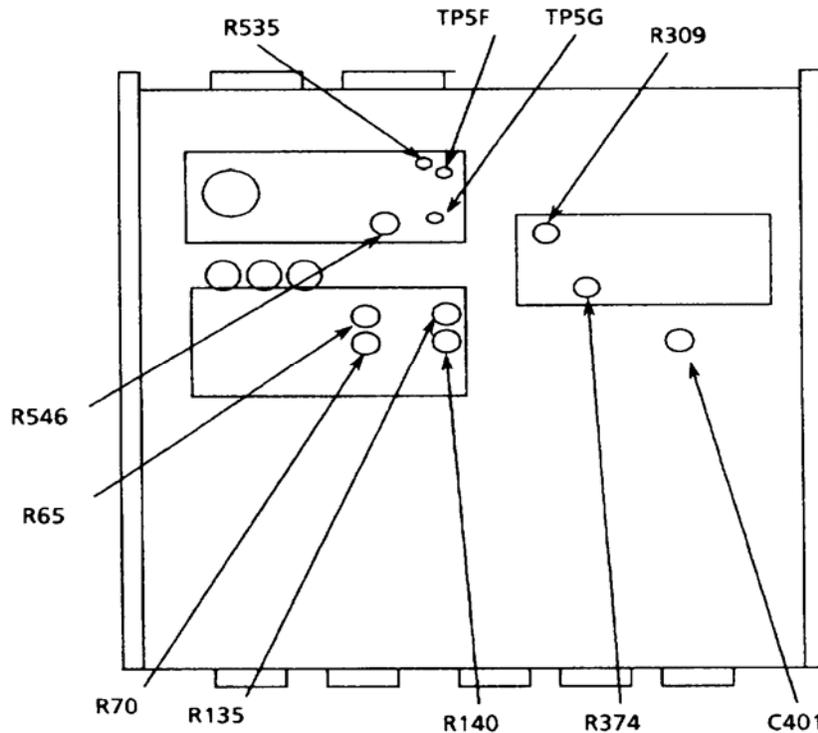

Figure 2. Test instrument - Top view.
**b. Adjustments.** Adjust **AMPLITUDE VERNIER** control fully ccw and adjust R374 (fig. 2) for a pulse amplitude indication on oscilloscope of less than 50 V (R).
- (1) Adjust R140 (fig. 2) for a pulse width indication on oscilloscope of 50 ns or less.
- (2) Adjust R135 (fig. 2) for a pulse width indication on oscilloscope of 100 μs or greater.
(1) Adjust R65 (fig. 2) until leading edge of output pulse indicated on oscilloscope is 10  $\mu$ s or more to the right of leading edge of sync pulse (R).
(2) Adjust R70 (fig. 2) until pulse delay indicated on oscilloscope is 10  $\mu$ s or less (R).
(1) Adjust R309 (fig. 2) for minimum pulse aberrations (R).
(2) Adjust C401 (fig. 2) for minimum pulse overshoot (R).
- (1) Set **POWER** switch to **OFF** and remove top protective cover.
- (2) Connect multimeter negative terminal to circuit ground and positive terminal to TP5F (fig. 2).
- (3) Set **POWER** switch to **ON**. If multimeter indication is not between -190 and -210 V dc, perform **b** (1) below.
- (4) Move digital voltmeter negative lead to TP5G (fig. 2). If multimeter indication is not between + 34 and + 36 V dc, perform **b** (2) below.
- (1) Adjust R535 (fig. 2) for a -200 V dc indication on multimeter (R).
- (2) Adjust R546 (fig. 2) for a + 35 V dc indication on multimeter (R).